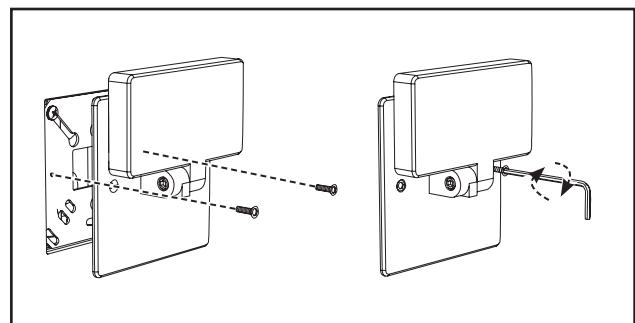

Figure 3.
5. Align gasket over junction box and insert the two included screws into the mounting plate holes. Secure the backplate to the mounting plate using a 5/64" allen key. (Figure 3.)